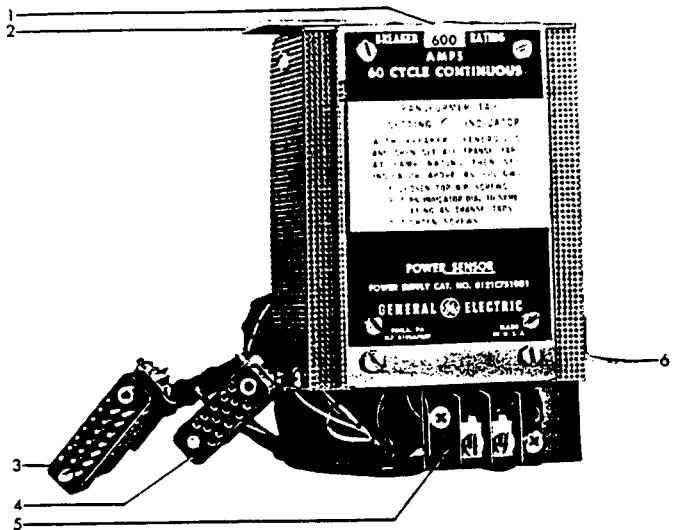

Fig. 15. (8039850) Power Supply
2. The Power Supply which provides both the tripping energy and the comparison basis for overcurrent detection (Figure 15).
### POWER SUPPLY (Figure 15).